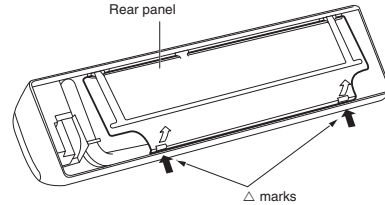

Fig. 3-72
- (2) Press the 2 Δ marks on the frame cover and disengage the stationary tabs from the frame. (Fig. 3-72)